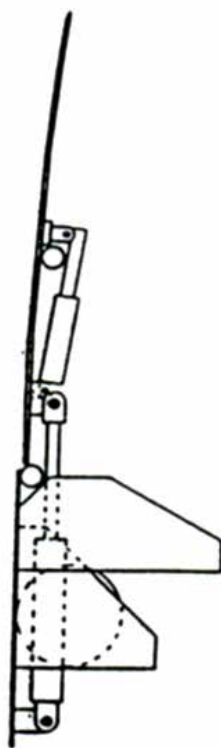

Figure 3
4. Depress and hold "RAISE" (A) button until leveler extends fully (Figure 3).